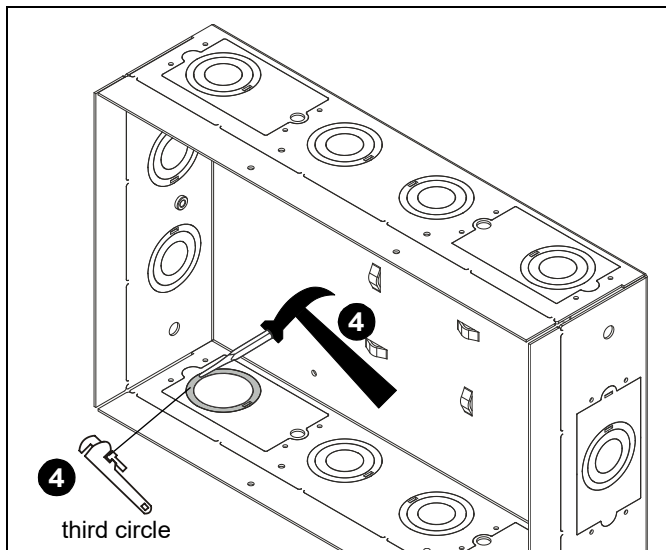

Figure 5
- Remove third circle by knocking it out from the inside using a punch tool and hammer. Use locking pliers to remove. (See Figure 5)